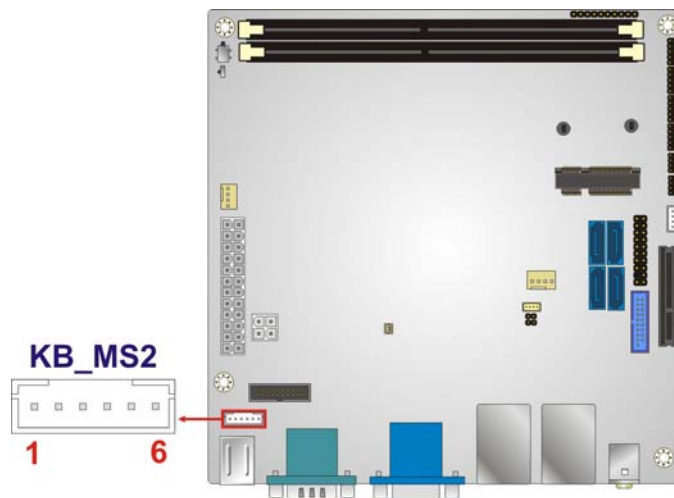

Figure 3-13: Keyboard/Mouse Connector Location
- CN Location: See **Figure 3-13**